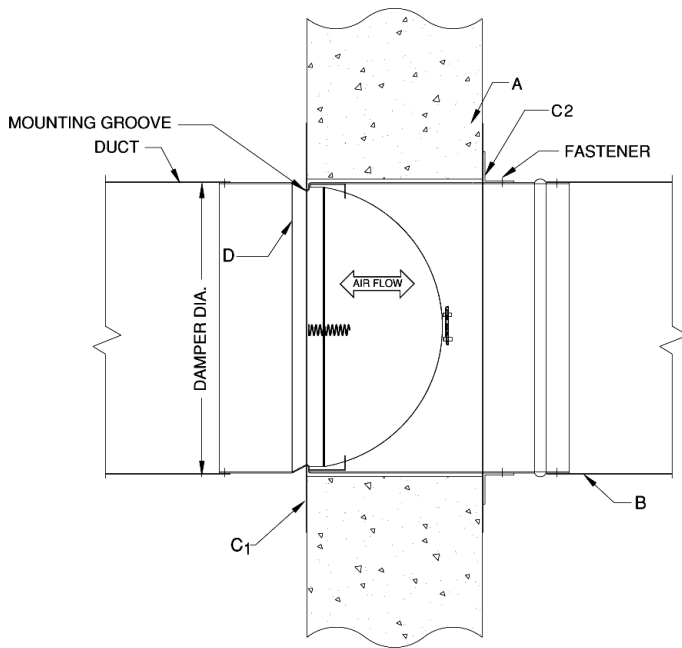
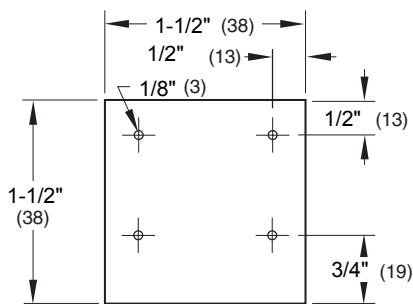
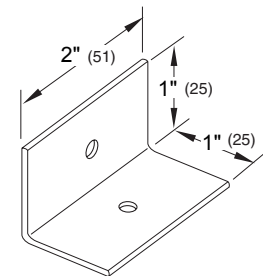

Figure 1
Figure 5
Figure 7
- A.** Concrete or masonry fire partition is shown in figure 1 and 2. The square or round opening shall be a minimum of $\frac{1}{4}$ " (6) with a maximum of $\frac{3}{4}$ " (19) larger, but less than 6" (152) the mounting angles must be a minimum of 16 gauge (1.5) and must be tall enough to overlap the opening by a minimum of 1" (25). Damper must be installed with leading edge of closed blade within the partition.
- B.** The connecting duct shall not be continuous, and shall terminate at the sleeve/frame using one or more of commonly used break away style connections. Refer to Sleeve Termination Supplemental Installation Instructions for further details. Damper sleeve shall not extend more than 6" (152) beyond the rated partition unless an access door is installed in the sleeve which then permits the extension to be a maximum of 16" (406).
- C1.** The holding plate mounting groove of damper sleeve must be flush with wall. Seat the holding plate (see figures 3, 3A & 4) into the mounting groove. Then place guide plate (see figures 3, 3A & 4) around the opposite side of damper sleeve and slide forward until it touches partition. Secure both plates with joiner clips (see figure 5) using four $\frac{1}{8}$ " (3) minimum rivets, #10 (M5) sheet metal screws, bolts or welds per joiner clip. A minimum of 3 clip angles (see figure 7) shall be arranged symmetrically around the damper and fastened to the damper sleeve on the guide plate side of the partition and in contact with the guide plate. Fasteners shall be #10 (M5) screws, bolts, $\frac{1}{8}$ " (5) rivets or welds. If the plate is round, (for round openings) it must be attached to the partition with a minimum of four fasteners, equally spaced around the circumference of the plate.
- C2.** As a further option for round openings either or both plates may be replaced by $1\text{-}\frac{1}{2}$ " x $1\text{-}\frac{1}{2}$ " x 20 gauge (38 x 38 x 1) minimum angle rings. Each ring shall be fastened to the damper sleeve, not the partition, at 8" (3) on center maximum with a minimum of 3 fasteners using #10 (M5) sheet metal screws, bolts, $\frac{1}{8}$ " (3) diameter rivets or welds.
- D.** On non-integral sleeve units, when fastening the damper to the sleeve, the damper shall be fastened with $\frac{3}{16}$ " (4.8) diameter steel rivets, Quick-Lock joints, welds or No. 10 (M5) bolts or sheet metal screws at 8" (203) o.c. maximum. A minimum of two connections per assembly.